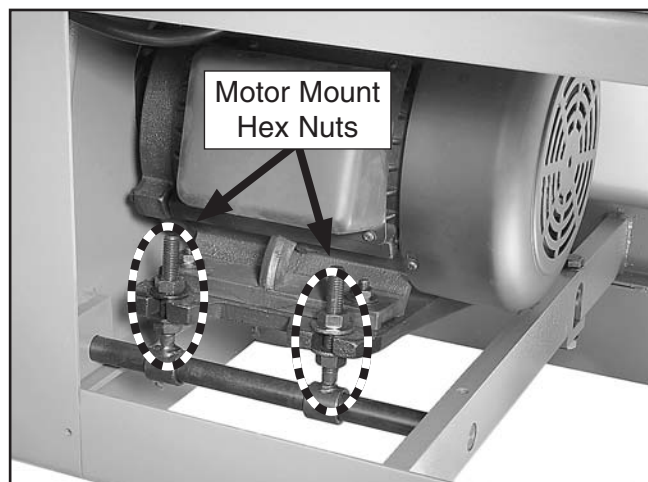

Figure 39. Front cabinet cover removed to expose the motor.
3. Remove the front cabinet panel to access the motor, as shown in **Figure 39**.
5. To adjust the V-belt tension, loosen the top motor mount hex nuts (see **Figure 39**), then adjust the bottom hex nuts to raise or lower the motor.